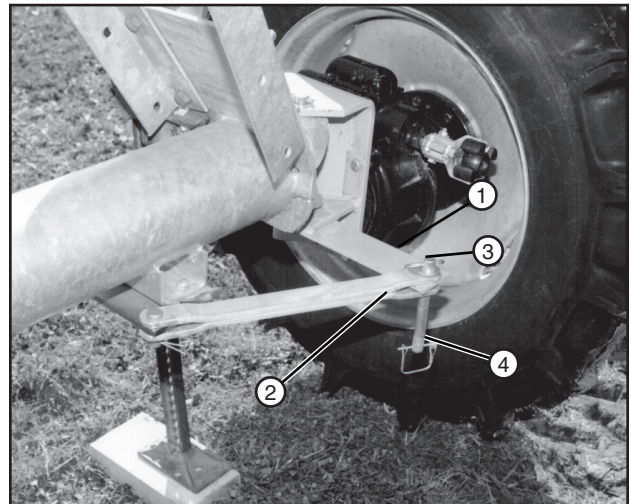

Figure 83-2 1. Steering Arm 2. Tow Link Bar Yoke 3. Torque Pin 4. Lynch Pin
2. Position steering arm in tow link bar yoke, align holes, then attach steering arm to tow link bar with torque pin. Secure torque pin with lynch pin. See figure 83-2.